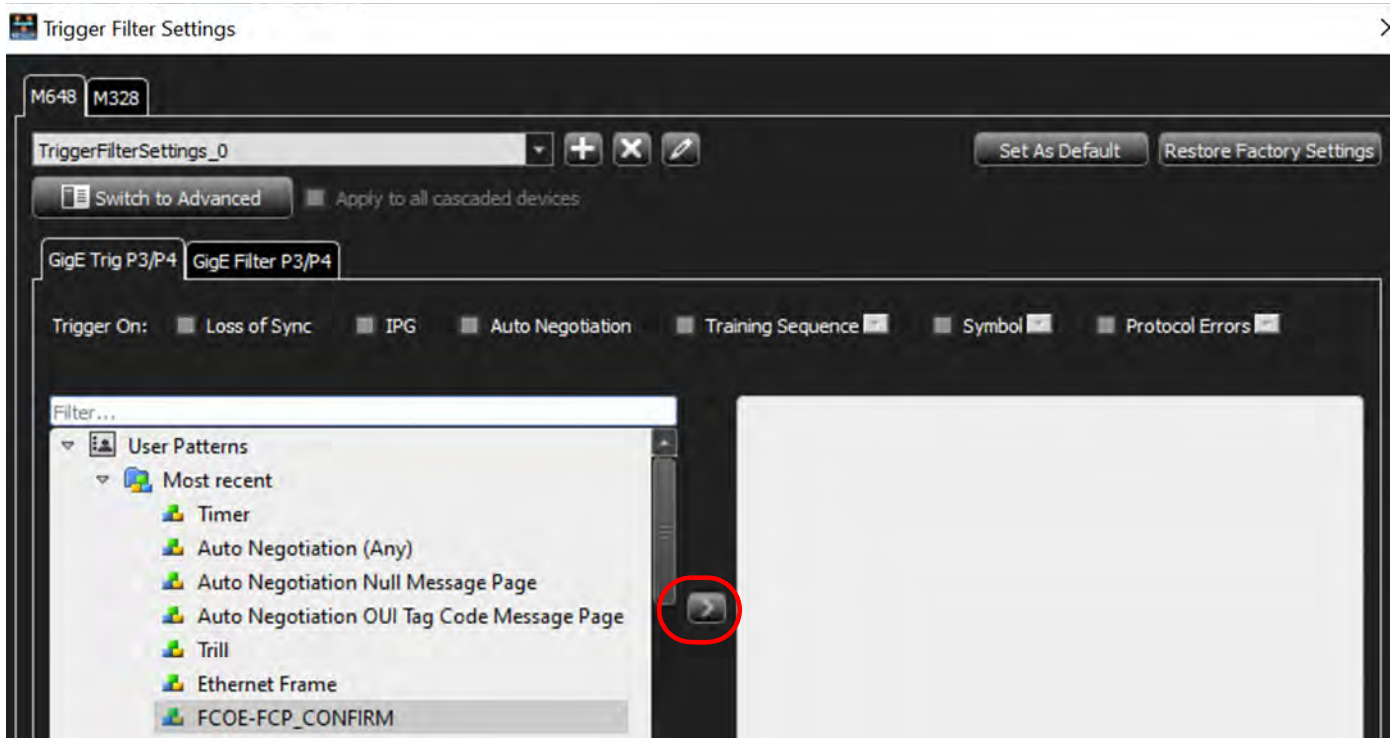

Figure 4.99: User Pattern FCOE-FCP_CONFIRM
1. With the Trigger Filter Settings open, select a pattern of interest. For example, FCOE-FCP_CONFIRM (Figure 4.99).